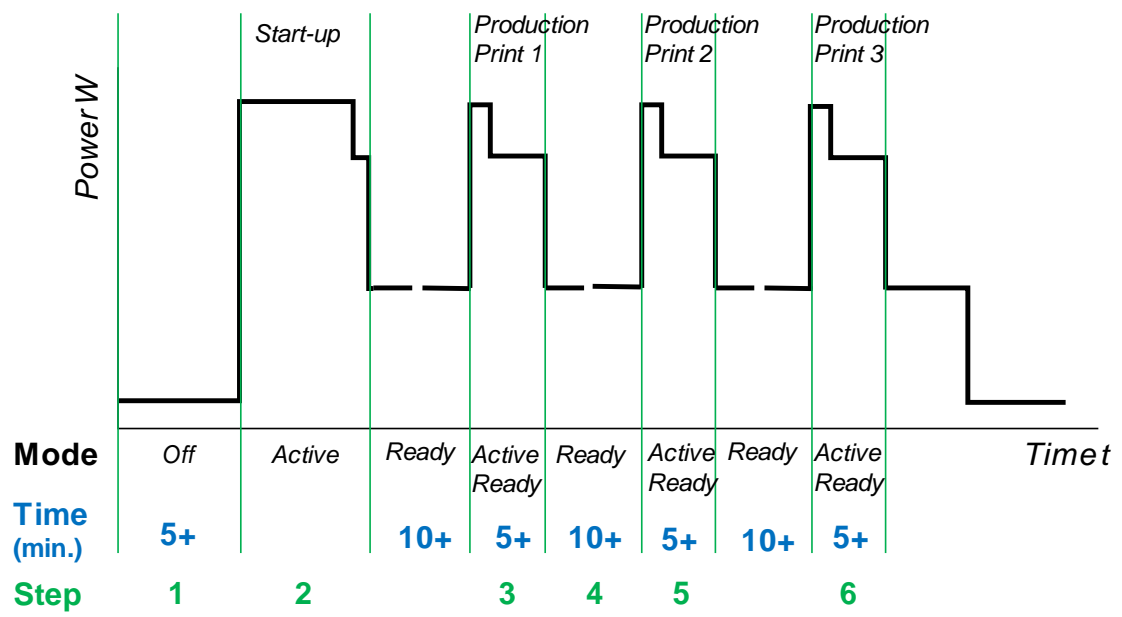

Figure 1 : TEC Test Procedure for Professional Imaging Products
A) Measurement of Professional Imaging Product TEC shall be conducted according to Figure 1 and Table 6, subject to the following provisions: